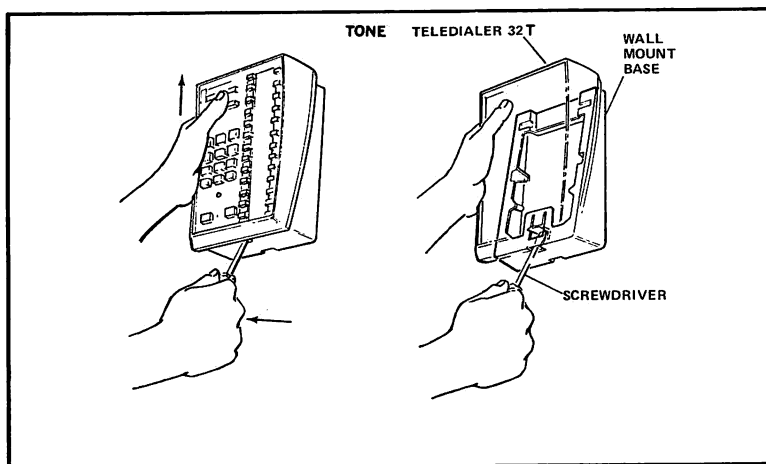

FIGURE 6
(A) Place the Wall Bracket as shown in Figure 6. Mount it to the wall placing the No. 8 x 1-inch screws through the two mounting holes in the Bracket. Do not overtighten the screws.
When necessary, the TeleDialer can be removed from its wall mounting bracket by inserting a screwdriver or other suitable tool up through the hole (Figure 6) at the lower edge of the Dialer. The tool used should come to rest against a plastic tab located there. With one hand applying an upward force on the Dialer, pull the handle of the tool outward, in such a manner that the tip of the tool used will move the inner plastic tab back toward the wall 1/4-inch or less. While the plastic tab is being held, the Dialer should slide upward and free of the bracket.